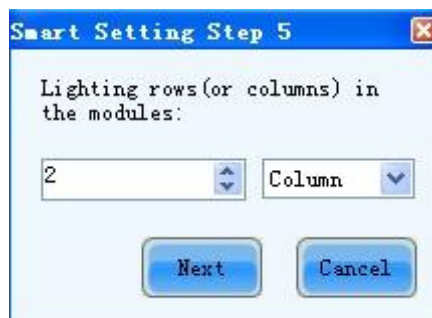

Fig. 7-9 Smart Setting Step 5
- 7) Click "Next" in "Smart Setting Step 4" page to enter "Smart Setting Step 5" page as shown in Fig. 7-9, Enter the number of LED columns that are lightened in a module.